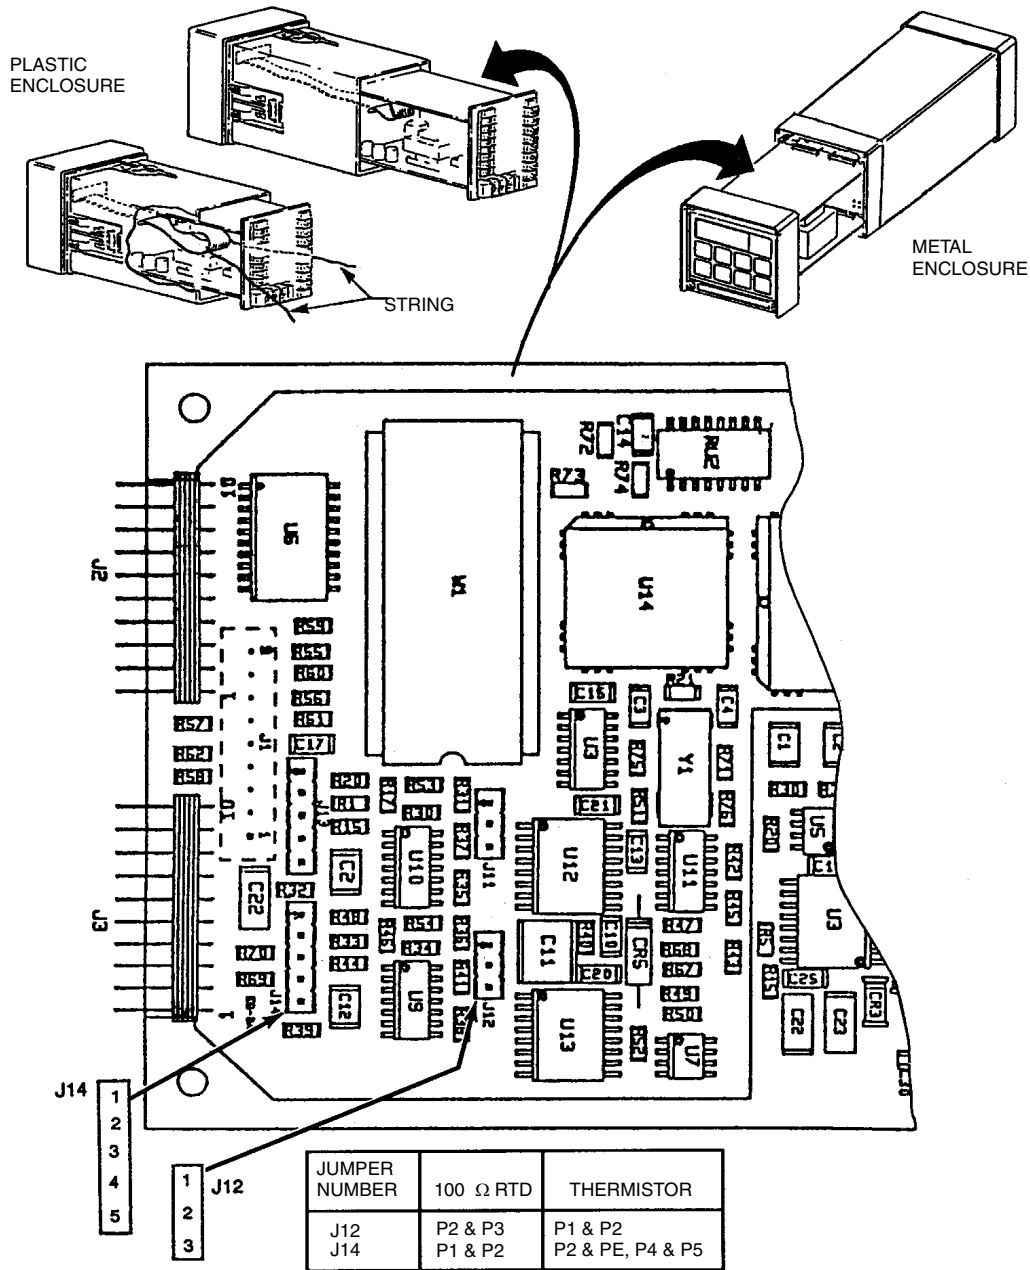

Figure 16. Jumpers for Temperature Compensation
4. Refer to Figure 16 to identify jumper locations.
On the plastic enclosure, a string must be rigged through the loop in the ribbon cable such that when the board assembly is slid into the housing, the string/ribbon cable may be pulled back simultaneously, thus preventing damage to the cable. See Figure 16.